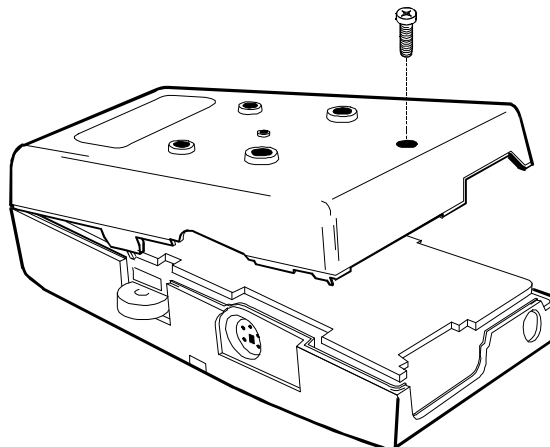

Figure 22: Easy Fit unit, cover replacement
2. (Figure 22) Replace the back cover of the unit and tighten the cover securing screw (1 screw).